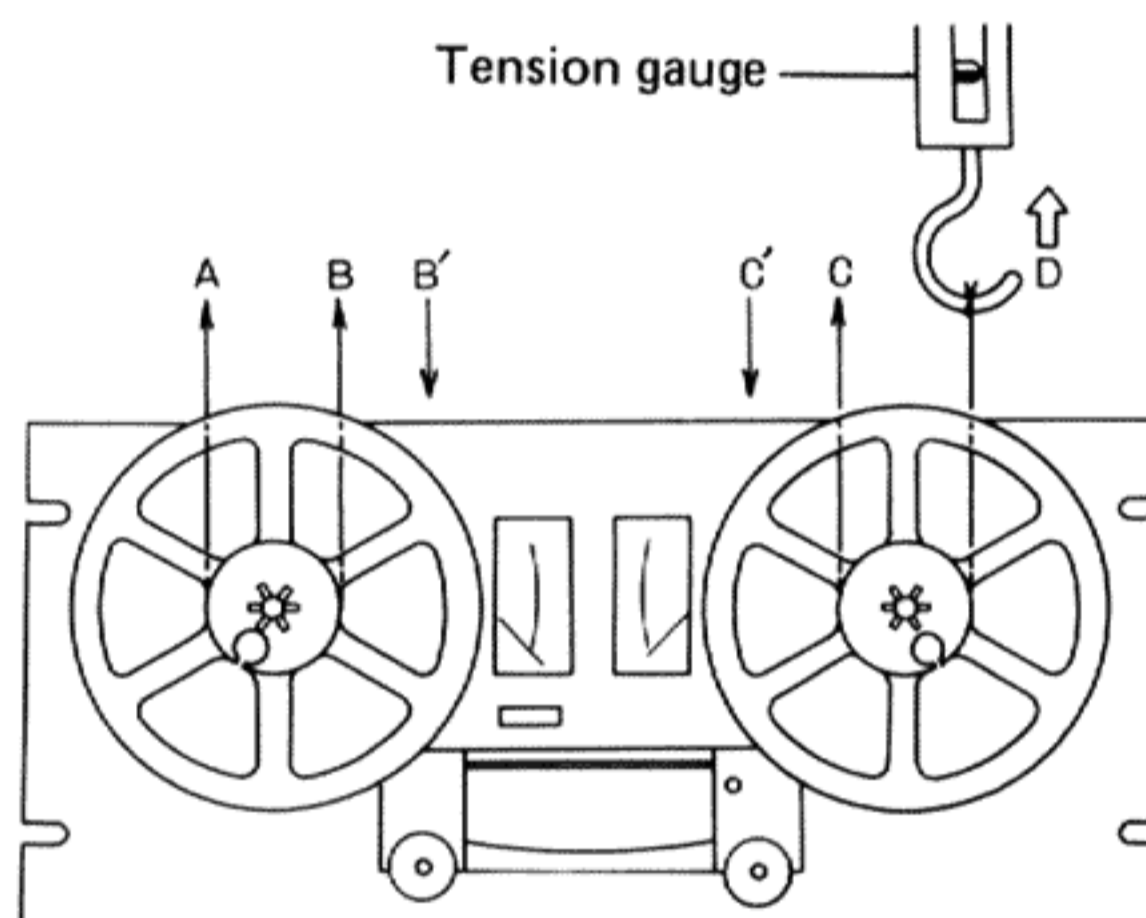
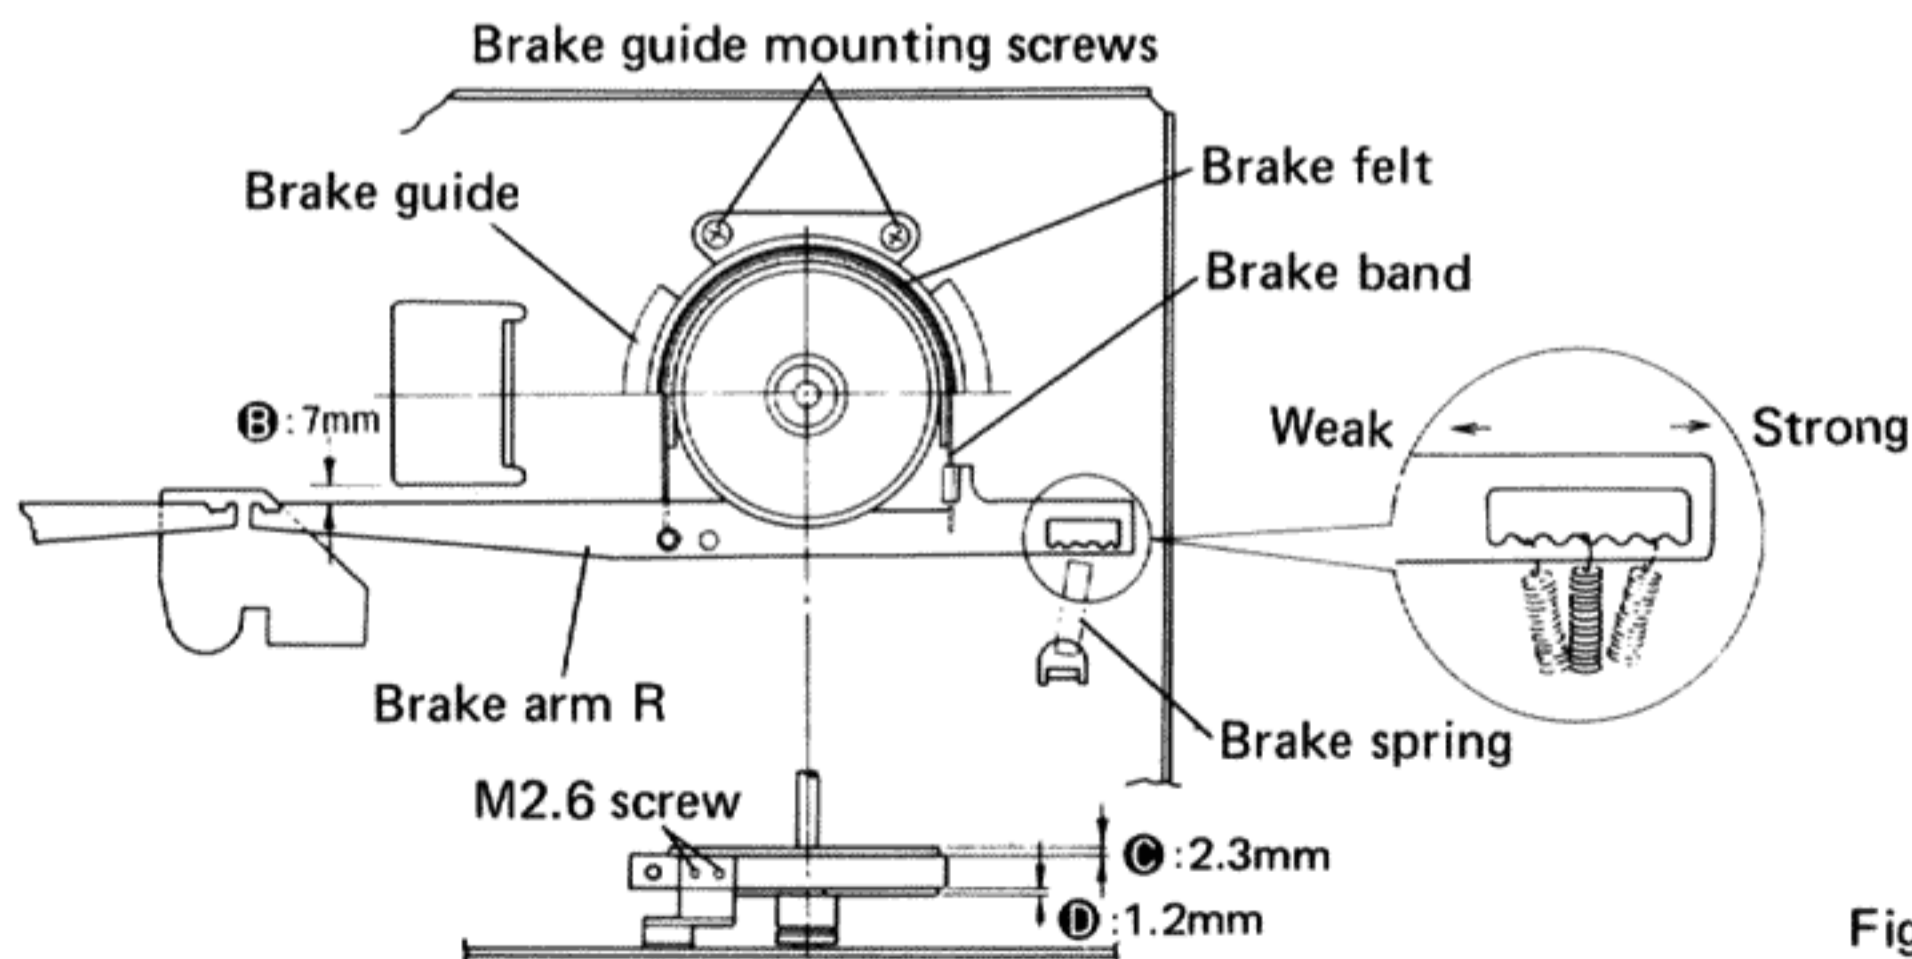

Fig. 23
Fig. 24
1. Are dimensions Ⓑ and Ⓒ shown in Fig. 24 as specified when the brake is applied (solenoid attracted)? When outside the specified dimensions, loosen and readjust the M2.6 screw.
2. Is the brake guide mounted so that the brake drum and brake felt are uniformly separated when the brake is released (when the shaft of the solenoid is pushed by hand) after the check of item 1 above?
1. Set the tape deck to the STOP state. Fasten a piece of string to a No. 7 reel (hub diameter 60mm) and place the reel onto the reel base (Fig. 23).
2. Hook a tension gauge to the end of the string and pull in direction B (C) and read the value indicated at the tension gauge when the reel base begins to turn.
3. Adjust the hooking position of the brake spring shown in Fig. 24 so that this value becomes $300 \sim 400\text{g}$ (torque = $900\text{g.cm} \sim 1200\text{g.cm}$).
5. Confirm that the following relation is established between the above measured value and the value measured when the tension gauge is pulled in direction (A) D.
1. Forward playback at a set tape speed of 19cm/s and measure the back tension of the supply side reel base (Pull the gauge in direction B of Fig. 23).
3. Reverse playback at a set tape speed of 19cm/s and measure the back tension of the supply side reel base (Pull the gauge in direction C of Fig. 23).
1. Forward playback at a set tape speed of 19cm/s and measure the takeup tension of the takeup side reel base (Pull the tension gauge in the C' direction of Fig. 23).
3. Reverse playback at a set tape speed of 19cm/s and measure the take up tension of the takeup side reel base (Pull the tension gauge in the direction B' of Fig. 23).
1. Operate the set at rewind and measure the back tension of the supply side reel base. (Pull the tension gauge in the C direction of Fig. 23).